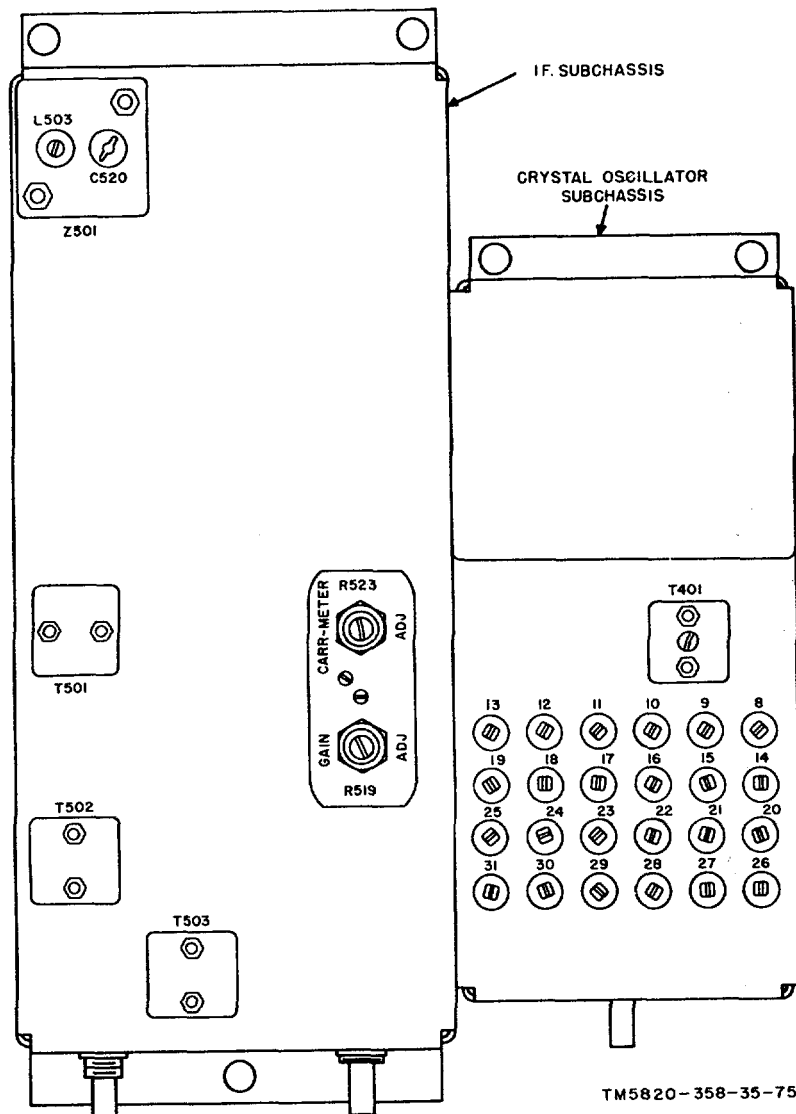

Figure 71. Crystal-oscillator and if. subchassis alignment points.
- (1) Check CR101 (para 53a).
- (2) Adjust one receiver according to the instructions given in *b* above.
- (3) Perform the procedures in *b* above for the second receiver. *Do not change* the settings of the AN/ URM-25(*) in any way.
74. Crystal-Oscillator Subchassis Trimmer Alignment (fig. 71)